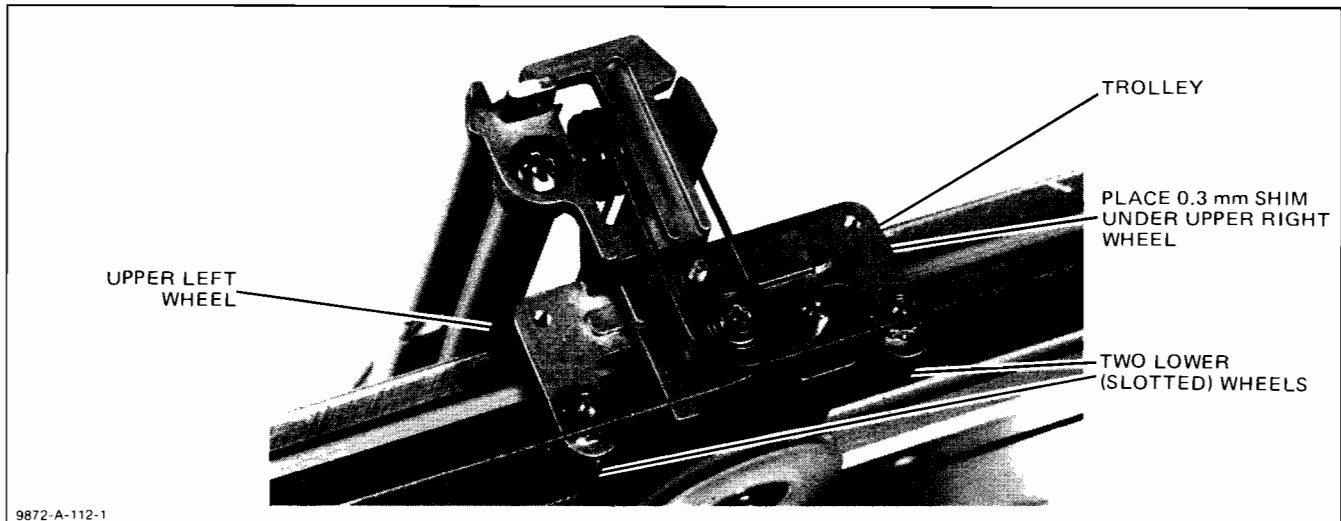

Figure 6-34. X Rear Track and Wheels
- e. Place a 0.3 mm (0.012 in.) shim between the upper right roller and the trolley track. See Figure 6-34.